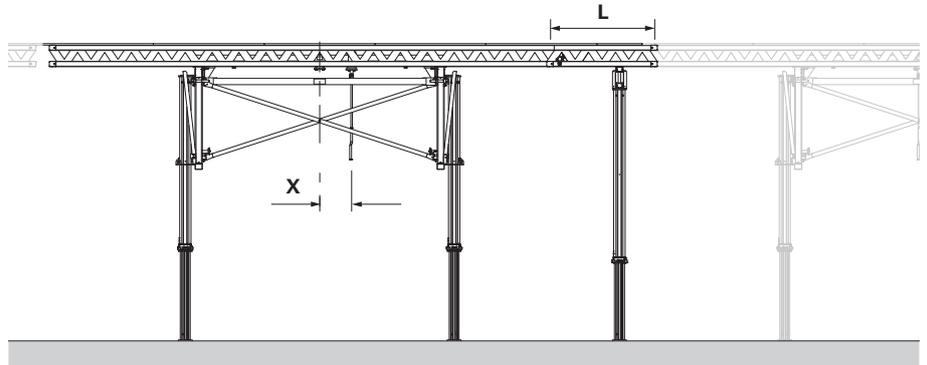

Fig. A7.06
- Chain Guidance Shoe STMS (Fig. A7.06)